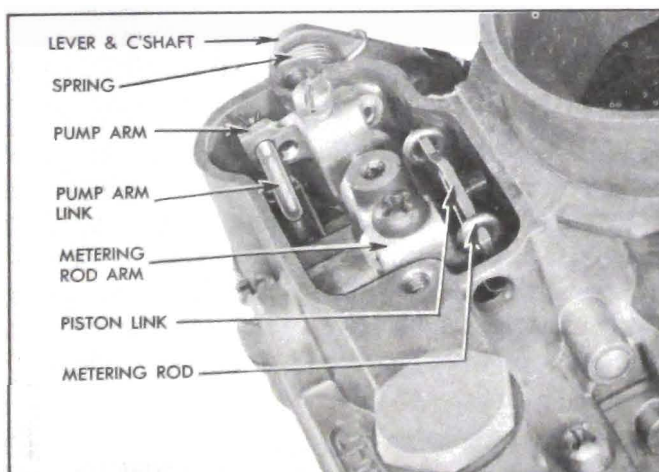

Figure 3-32—Metering Rod and Pump Operating Parts
5. Remove pump rod spring clips and pump rod. Remove dust cover. Rotate eyes of metering rods off pins on vacuum piston link and lift rods out, using care to avoid bending them. See figure 3-32.
6. Loosen set screws in metering rod arm and pump arm. Pull countershaft and spring out, removing arms at the same time. Leave pump arm link attached to arm. See figure 3-32.